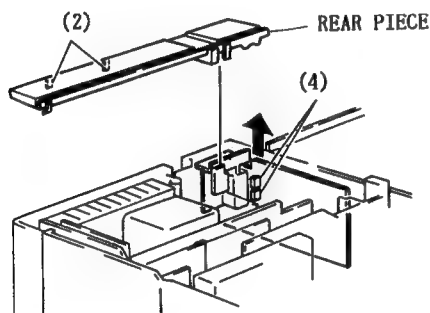

Fig. 4-12 S-Connector Circuit Board
8. S-Connector Circuit Board (Fig. 4-12)